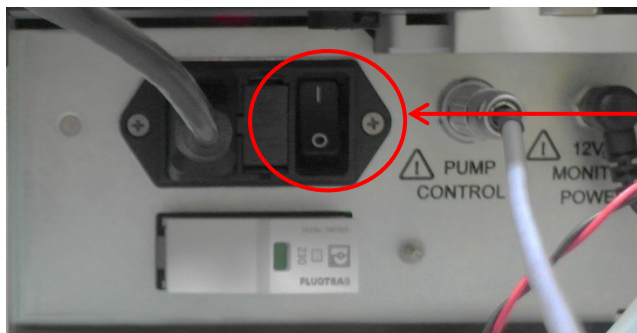

Figure 8: AC Power Switch
1. First, you will need to move the position of the gantry to gain access to the viscometer cell assembly area. Turn on the AC power from the rear power switch. See Figure 8.
- Turn power off from front of machine and rear of machine. See Figure 1 and Figure 8.
2. To turn off MAINS AC power, use button on rear of machine. See Figure 8.